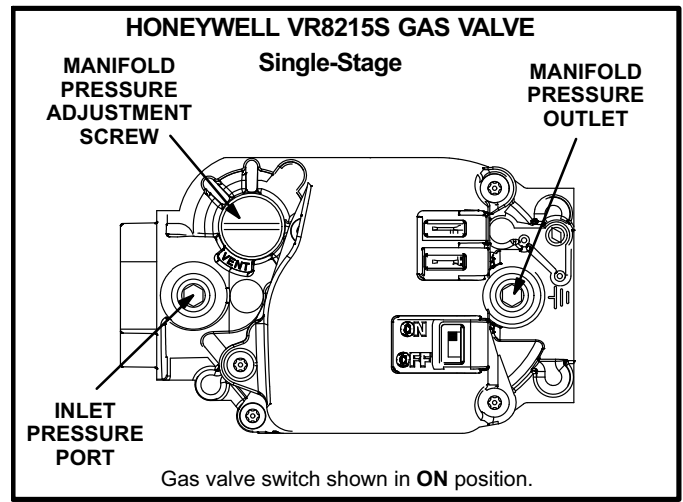

FIGURE 23
Gas Valve Operation (figure 23 or 24)
- 5- Move gas valve switch(es) to **OFF**. See figure 23 or 24.
- 6- Wait five (5) minutes to clear out any gas. If you then smell gas, **STOP!** Immediately call your gas supplier from a neighbor's phone. Follow the gas supplier's instructions. If you do not smell gas, go to the next step.
7- Move gas valve switch(es) to **ON**. See figure 23 or 24.